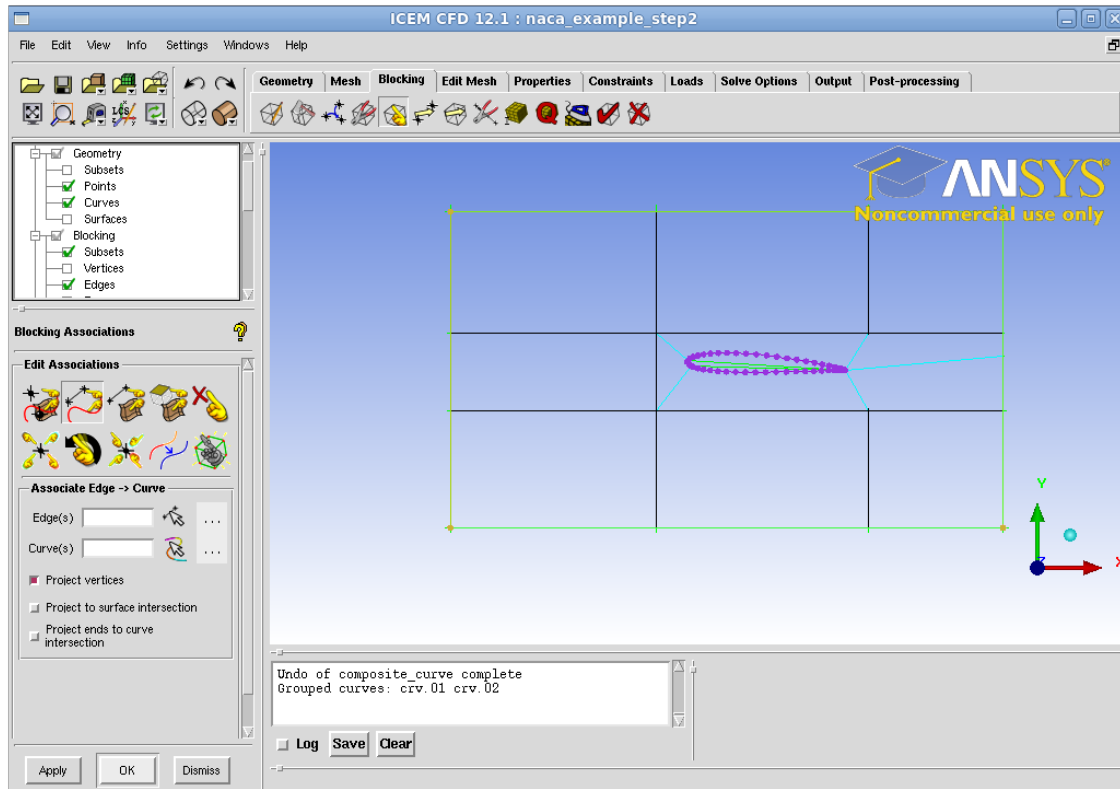

Figure 8: Trailing Edge Block Eliminated
- After all this your mesh should look like Figure 8.